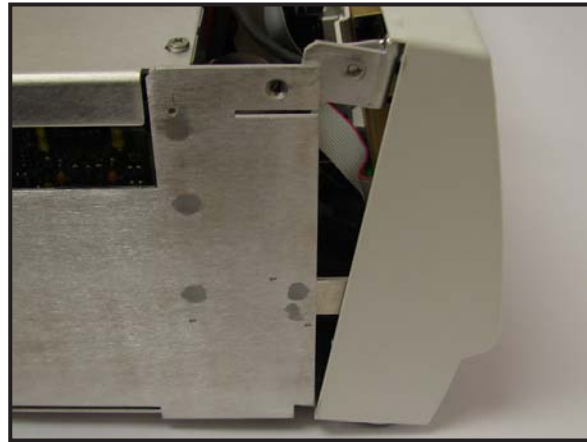

Figure 6-9
4. Tilt the front bezel forward and away from the chassis to make the rear side of the NIBP connector on the bezel accessible (See Figure 6-9).
8. Tilt the front bezel forward and away from the chassis (See Figure 6-9).
7. Tilt the front bezel forward and away from the chassis (See Figure 6-9).